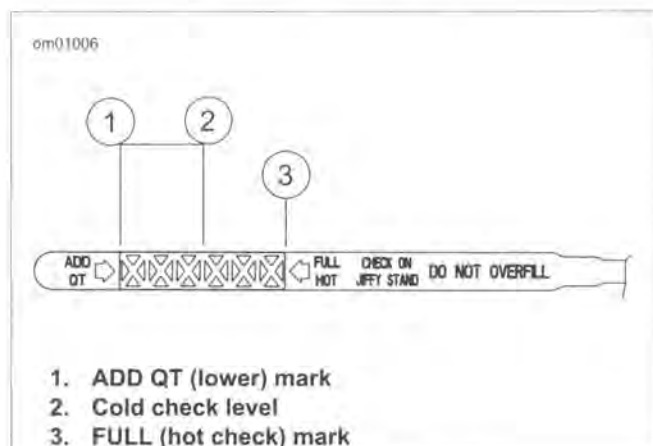

Figure 1-2. Engine Oil Dipstick
- See Figure 1-2. Remove filler plug/dipstick and check oil level. The correct oil level is midway (2) between the ADD QT (1) and FULL HOT (3) marks on the dipstick.
- See Figure 1-2. Remove filler plug/dipstick and check oil level. Oil level must register between the ADD QT (1) and FULL HOT (3) marks. If oil level is at or below the ADD